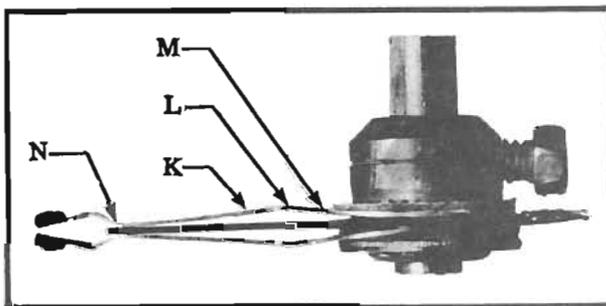

Figure 8. Properly Spaced Wiper Springs are Shown Above.
3.07 Check space between the wiper springs at L (Fig. 8). Spacing should be 1/8". If necessary, adjust by placing adjusters at K and M (near L) and bend each wiper at L as required.
3.08 The wiper should be formed as shown in Fig. 8. Check that there is no bow between N and L. Adjust by working the H-16290-7 adjusting pliers along wiper, from L to N.